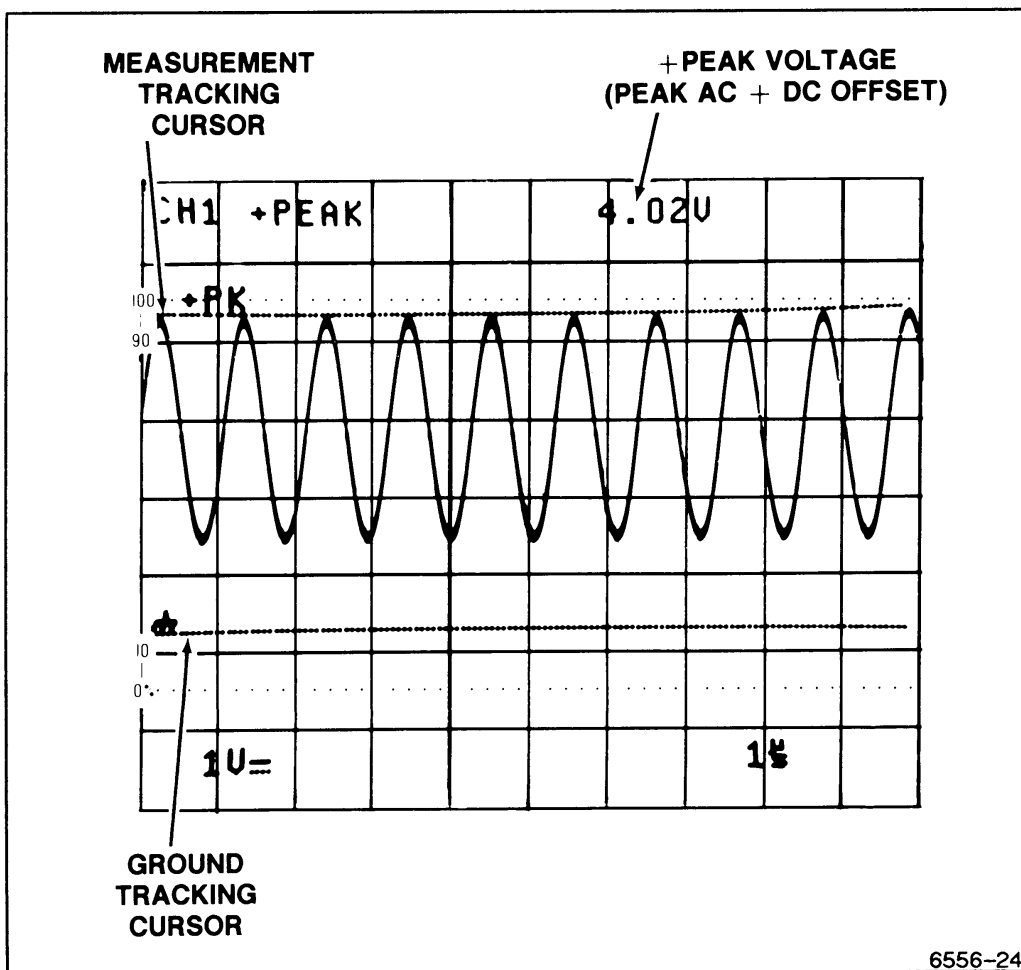

Figure 5-1. +PEAK voltage measurement and tracking cursors.
7. See Figure 5-1. The test signal used for the example has a dc offset (as shown by the position of the TRACK $\overline{||}$ cursor) and +PEAK value (peak ac + dc) as indicated by the voltage readout.